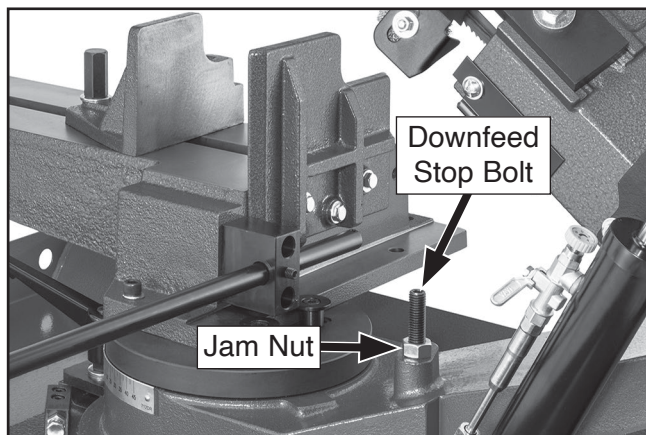

Figure 87. Location of downfeed stop bolt and jam nut.
3. Loosen jam nut shown in **Figure 87**, then raise headstock enough so you can tighten downfeed stop bolt until blade teeth are just below vise table surface (but not contacting vise base).
4. Raise headstock enough so you can loosen downfeed stop bolt (see **Figure 87**) until headstock contacts bolt when blade teeth are just below vise table surface (but not contacting vise base).